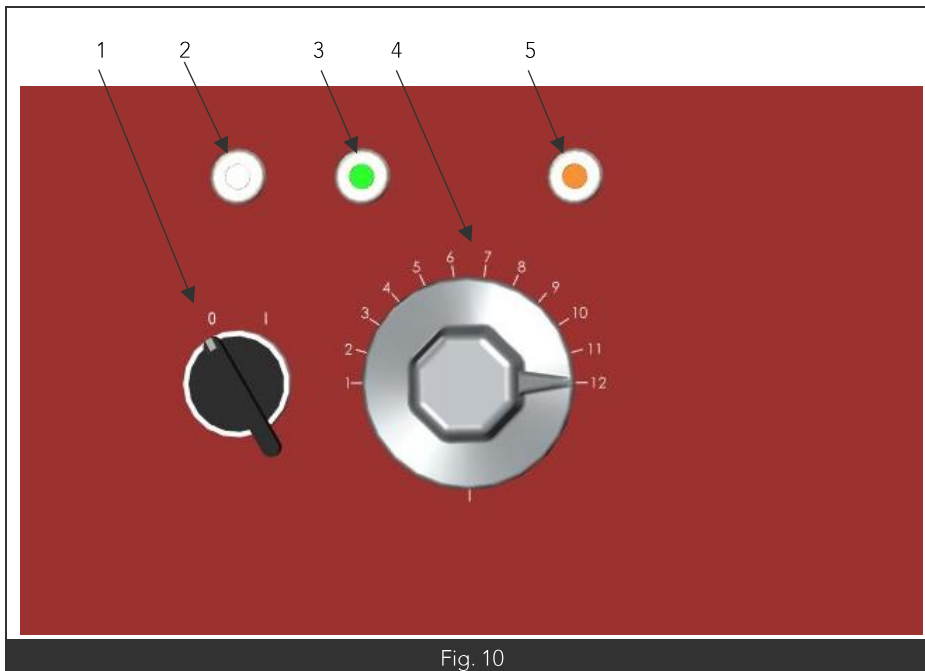

Fig. 10
- With the appliance switched on, the white light is on (Fig. 10 Item 2).
- Turn the switch (Fig. 10 Item 1) to the On position '1', the green 'in operation' indicator light (Fig. 10 Item 3) comes on.
- Turn the thermostat control knob (Fig. 10 Item 4) to the desired position, the amber 'heating' indicator light (Fig. 10 Item 5) comes on and then turns off when the required temperature is reached.